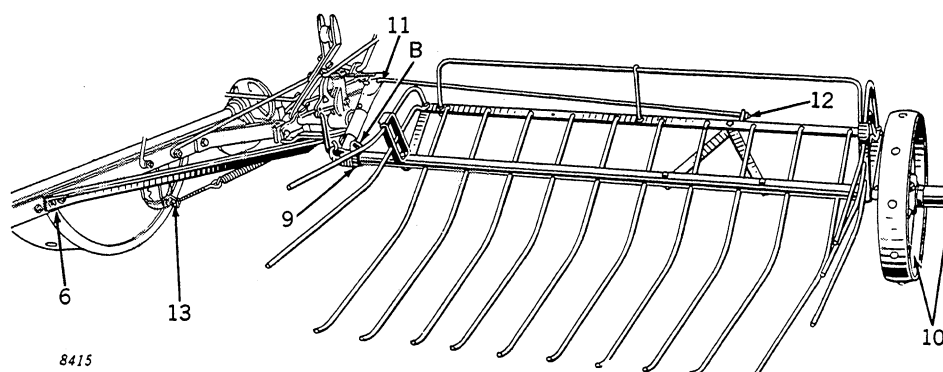

Figure 95
9. (Figure 95) Slip bundle carrier in crank and connect raising link. Set link in lower hole only when cutting short grain on hilly land.
10. (Figure 95) If using steel wheel, bolt inner axle collar to axle. Grease axle freely and put on wheel. Secure wheel to axle with collar and pin. Fill wheel with grease.
11. (Figure 95) Fasten paralleling rod to connection on crank with cotter pin.
12. (Figure 95) Adjust paralleling rod so that bundle carrier wheel runs parallel with binder. Tighten lock nut.
13. (Figure 95) Check adjustment of bundle carrier return spring to be sure the carrier lifts easily.
The wide bundle carrier is quickly removed by disconnecting rods No. 9 and No. 11, Figure 95, and tilting carrier until hook "B," Figure 95, clears crank.